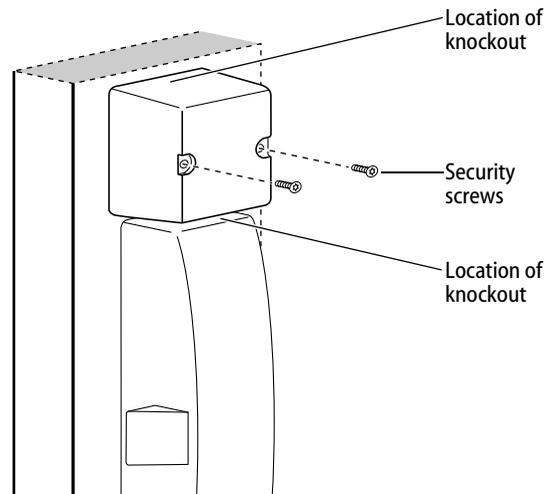

Figure 20 Installing the battery cover on the bracket
- 1 **If installing with a surface rod exit device**, remove the knockouts for the rod from the battery cover. See Figure 20.
- 3 Use the appropriate driver to secure the battery compartment cover with the security screws. Tighten firmly. See Figure 20.